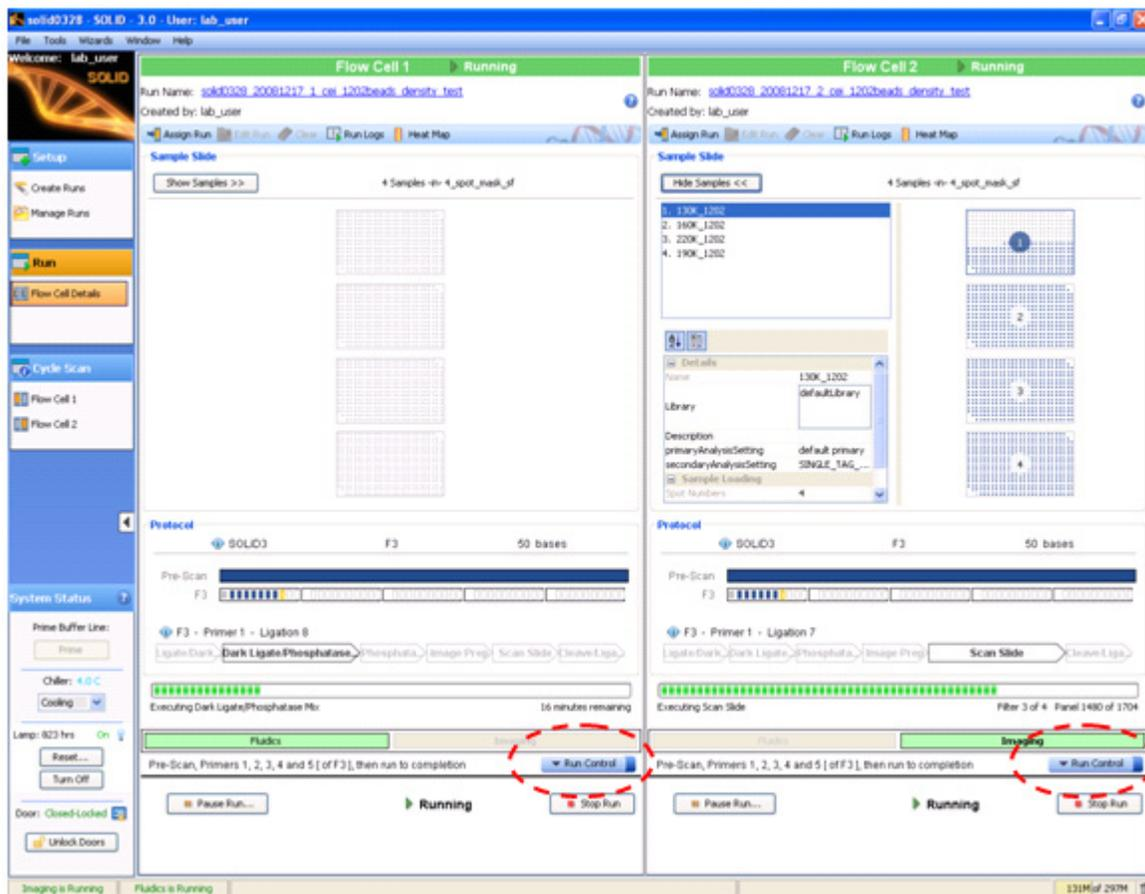

Figure 60 Click **Run Control** to display the Run Control menu for that flowcell.
1. Click **Run Control** to display the Run Control menu (see Figure 60).